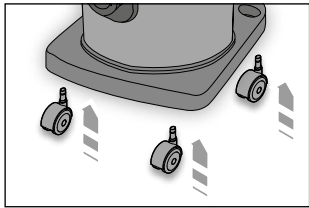

Fig. 2
- Insert the castor wheels (S) in the appropriate housings positioned in the lower part of the blower/vacuum and block them by pressing them in until a click is heard (FIG. 2).